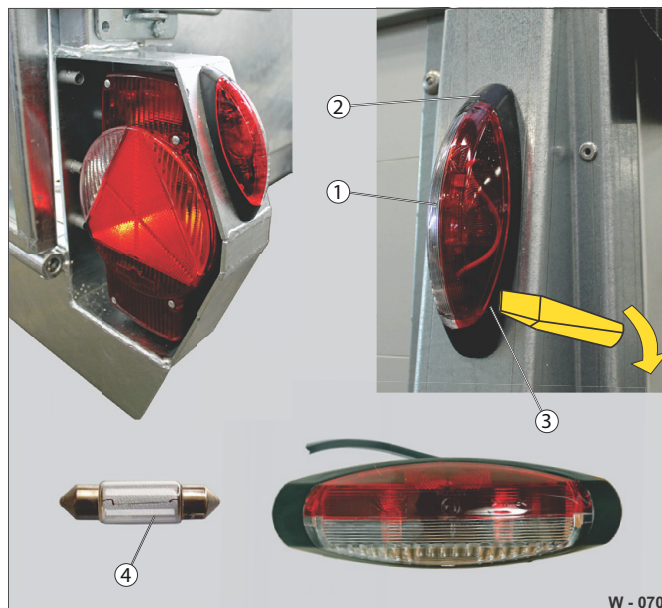

Fig. 72 Clearance light / bulb at side on rear
- Carefully loosen the cover glass (Fig. 72 /1) with flat tool in the slit (Fig. 72 /3).
- Replace the tubular bulb (Fig. 72 /4).
- Place the cover glass on the mounting plate (Fig. 72 /2) - pay attention to orientation.